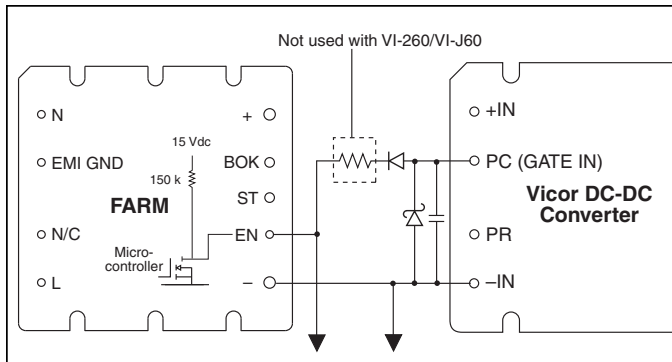

Figure 10 — Enable (EN) function
| High state voltage | 14.0 | 15.0 | 15.4 | Vdc | 150 K internal pull up to 15 Vdc (see Fig. 10) |
Enable (EN) Pin. (see Fig. 10) The Enable pin must be connected to the PC or Gate-In pin of all converter modules to disable the converters during power up. Otherwise, the